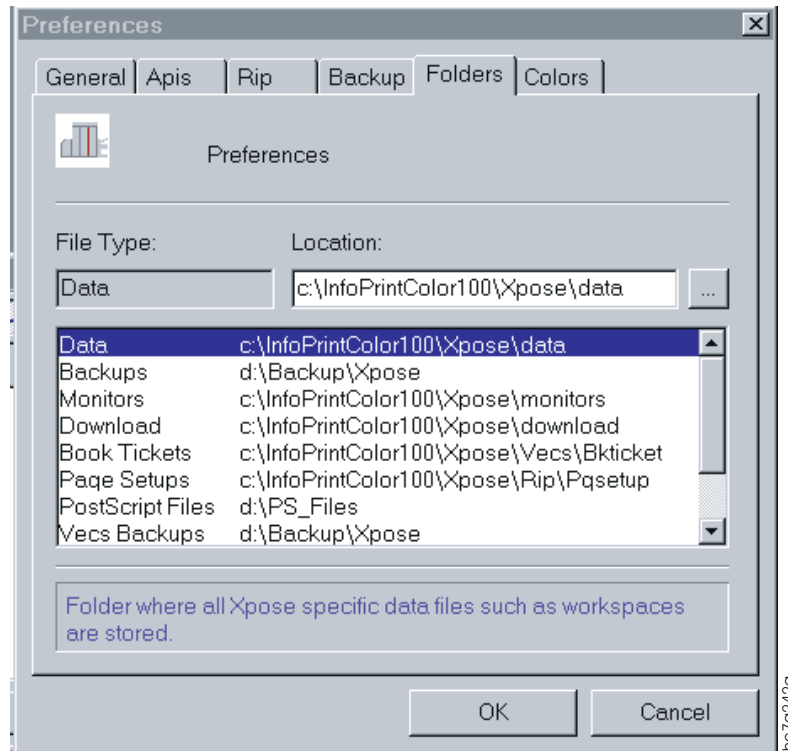

Figure 26. Folders Tab in the Preferences Window
- To select more files to backup, click the browse (...) pushbutton and select additional files. The path on the RIP platform for storing the backup files is defined in the **Folders** window, as shown in Figure 26 on page 32.
Figure 26 on page 32 shows the **Preferences** window **Folders** tab.